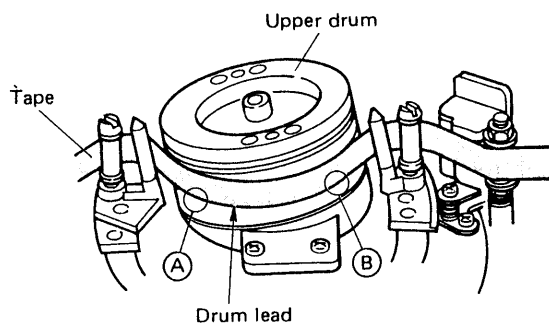

Fig. 2-22 Drum lead check-1
Confirm absence of damage to the tape at points (A) and (B) as shown in Fig. 2-22 and absence of contact noise between head tips and tape edge.